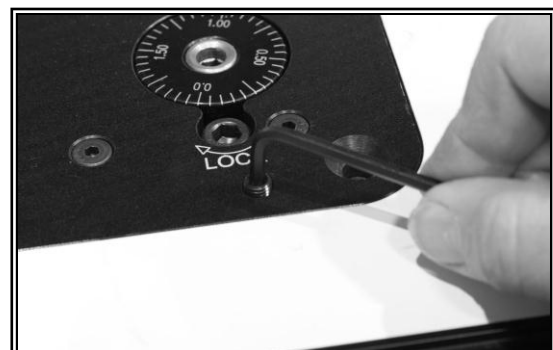

Figure 25
With the MLCS Router Lift positioned in the table top opening, install ten (10) set screws into the holes located around the perimeter of the lift plate. Adjust the four corner screws first (Figure 25), raising the plate until it sits flush with the table surface. Then adjust the remaining perimeter screws as needed to provide additional support.